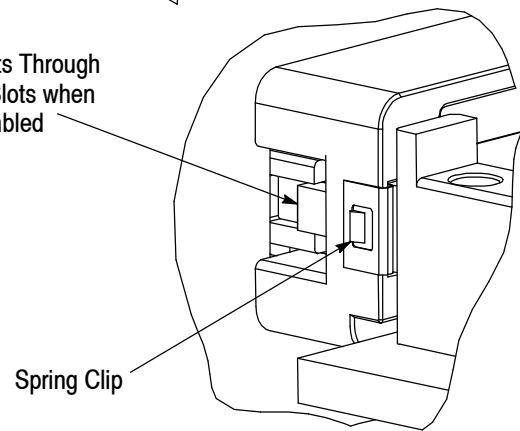

Figure 7
7. Close or install the bezel/panel onto the cabinet such that the arms on the ends of the guide rails fit through both the slot in the rear of the backer plate and the slots on the rear of the external bracket. Some minor adjustment of the bezel components assembled in Paragraph 6 may be required. The bezel/panel will not fit flush to the cabinet if the arms on the guide rail do not find both sets of slots. See Figure 7.